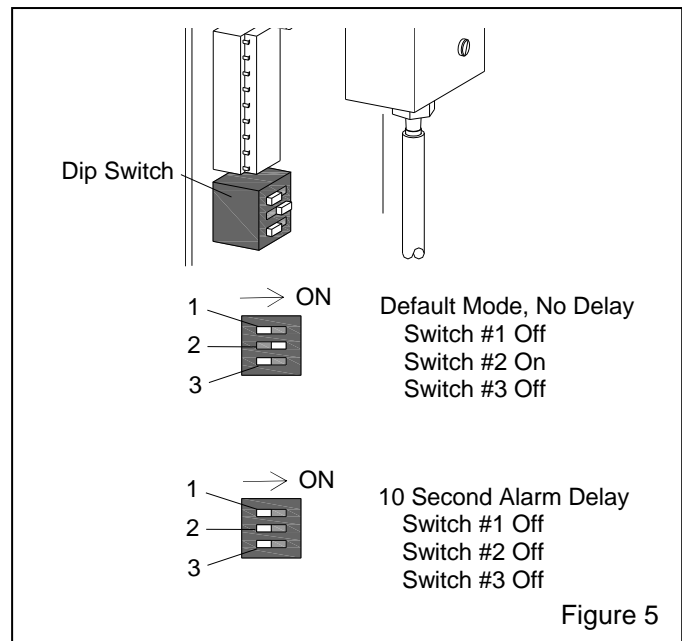

Figure 5
2.6 Changing Mode Select Dip Switch to Delay Alarm – Figure 5
NOTE: In areas where intermittent radio frequency transmissions cause false alarms, the monitor can be set to have a 10 second alarm delay to avoid false alarm conditions. The dip switch is mounted on the circuit board as shown in Figure 5.
Do not change the switch positions unless there are frequent alarms from radio frequency (RF) transmissions. Do not change the switch positions to any position other than noted in Figure 5. Avoid unnecessary tampering with the circuit board; doing so can change the monitor's settings, which can affect CO alarm conditions.
2.6.1 The default and recommended setting has no delay in alarm-response time. The positions of the white mode-select switches are shown on the upper example in Figure 5 and as follows:
2.6.2 To delay the alarm by 10 seconds, set the white mode-select switches as shown on the lower example in Figure 5 and as follows: